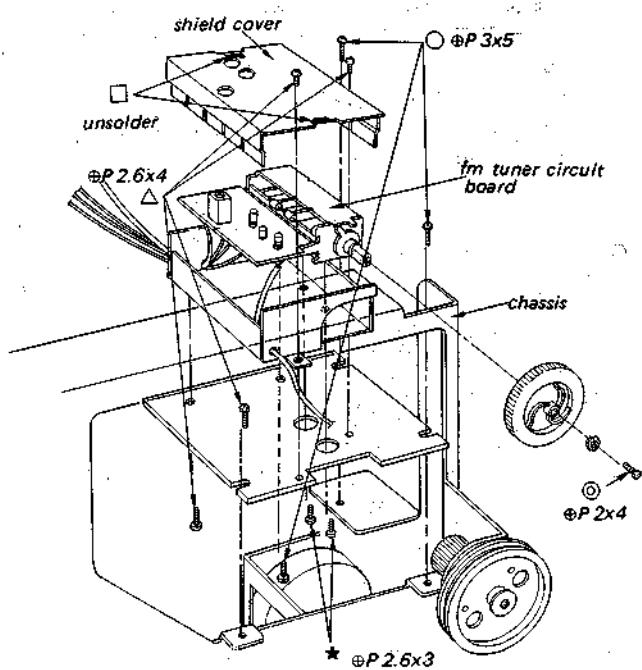

Fig. 2-7
2. Remove the seven screws marked \circ and Δ in Fig. 2-7.
6. Take out the shield cover and fm tuner circuit board as illustrated in Fig. 2-7.